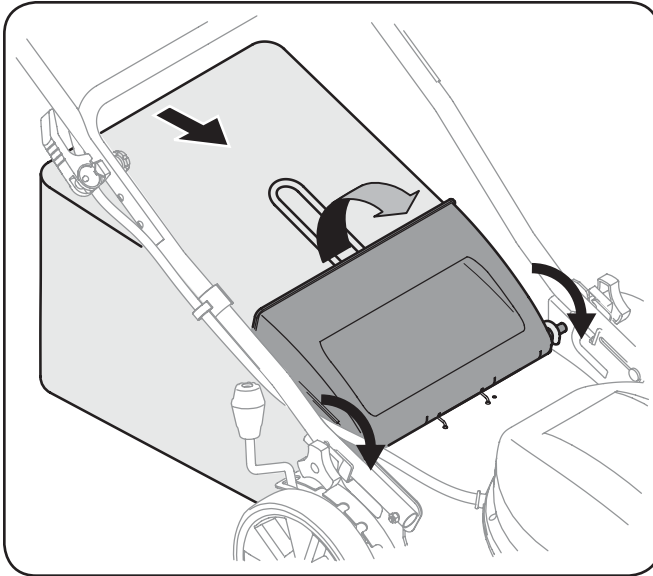

Figure 3-10
- c. Place grass catcher on the pivot rod. Let go of discharge door so that it rests on the grass catcher. See Fig. 3-10.